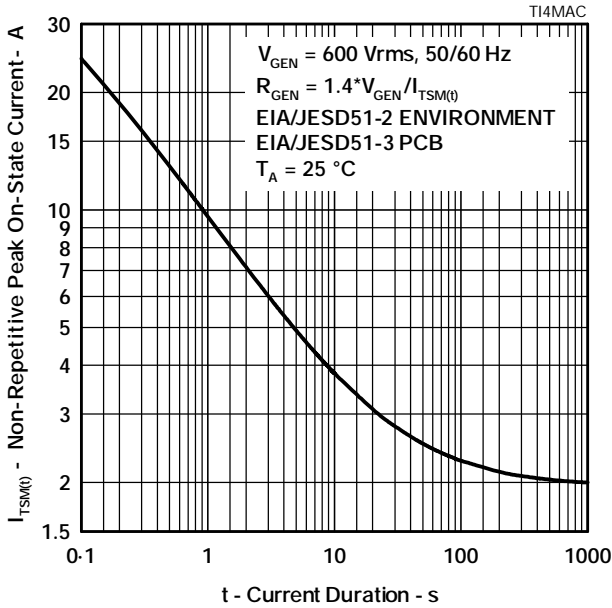

Figure 9.
5. EIA/JESD51-2 environment and EIA/JESD51-3 PCB with standard footprint dimensions connected with 5 A rated printed wiring track widths. See Figure 9 for the current ratings at other durations. Derate current values at  $-0.61\text{ %/°C}$  for ambient temperatures above  $25\text{ °C}$ .
The protector can withstand currents applied for times not exceeding those shown in Figure 9. Currents that exceed these times must be terminated or reduced to avoid protector failure. Fuses, PTC (Positive Temperature Coefficient) thermistors and fusible resistors are overcurrent protection devices which can be used to reduce the current flow. Protective fuses may range from a few hundred milliamperes to one ampere. In some cases, it may be necessary to add some extra series resistance to prevent the fuse opening during impulse testing. The current versus time characteristic of the overcurrent protector must be below the line shown in Figure 9. In some cases, there may be a further time limit imposed by the test standard (e.g. UL 1459 wiring simulator failure).